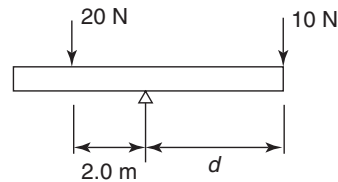

Figure 5.33
- The distance  $d$  in Figure 5.33 when the beam is in equilibrium is: